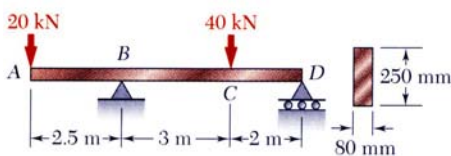

Fig.5.1
- Pb.5.1** For the timber beam and loading shown in Fig.5.1, draw the shear and bending-moment diagrams and determine the maximum normal stress due to bending.